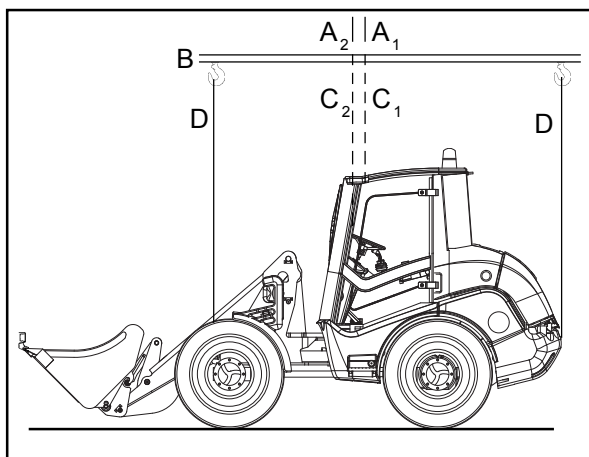

Figure 7-8
- The following items must be observed when lifting the loader by crane (Figure 7-8):
- The lifting point ( $A_1$  - loader without standard bucket or  $A_2$  - loader with standard bucket) of the lifting device (B) must be precisely vertically over the centre of gravity ( $C_1$  or  $C_2$ ) of the loader so that the lifting device is **horizontally** above the longitudinal centre axis of the loader.
- The lifting gear (D) must lead vertically upwards from the lifting points of the loader (7-6/arrows and 7-7/arrows).